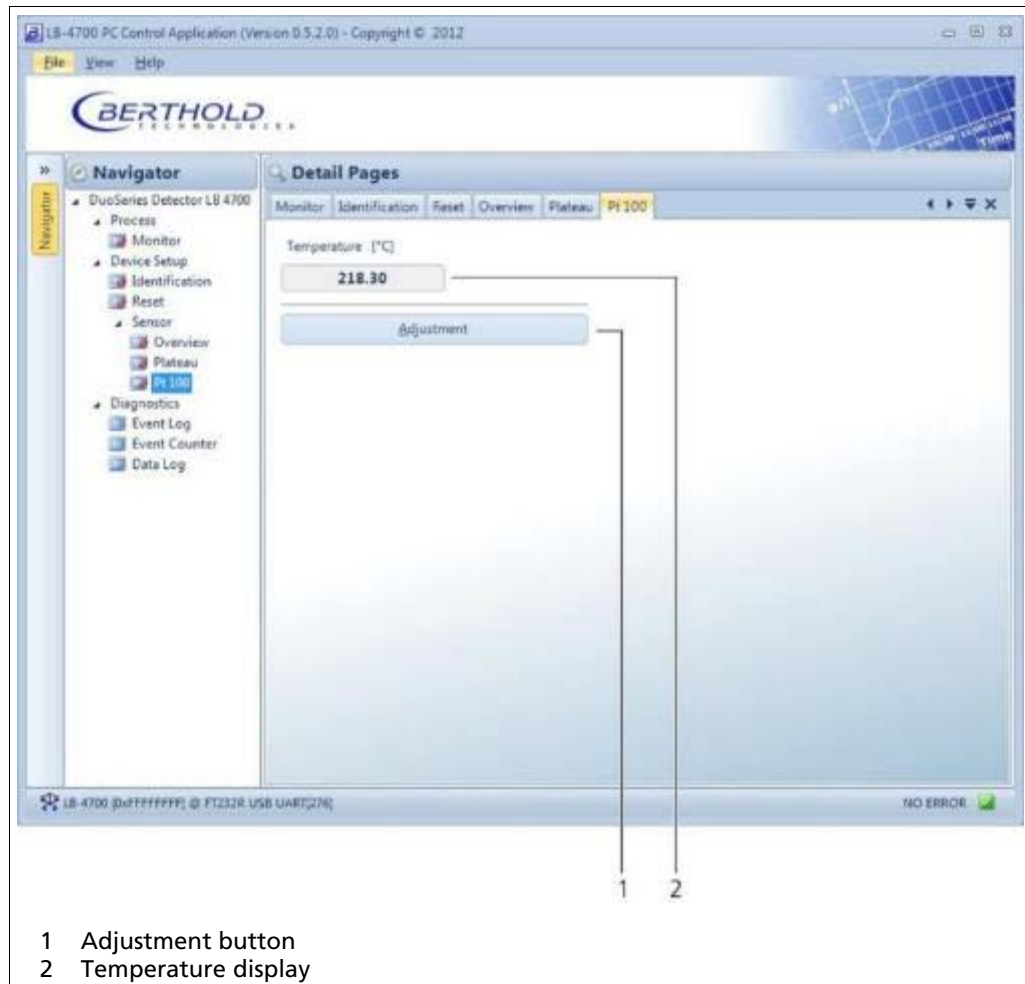

Fig. 41 Device Setup | Sensor | Pt 100
Open the submenu Plateau in the menu group Device Setup | Sensor of the navigator by double-clicking on <Plateau> (Fig. 41).
Click on <Plateau Setup> (Fig. 41, item4), in order to set the parameters.